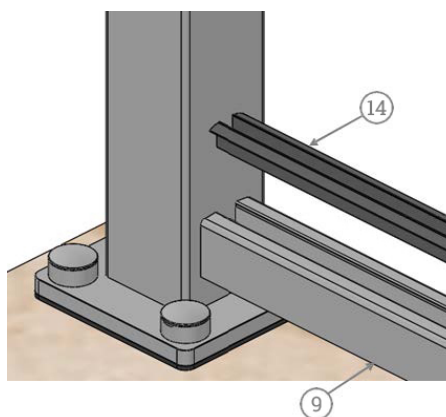

Fig 22
- Secure in place by screwing #8 x 3/4" Pan Head Tek Screws (31) through the side of the top rail into the post. Do this on both sides of each post. (Fig 22)
- Once the top rail has been secured, pop the top rail infill (24) into the bottom of the rail.